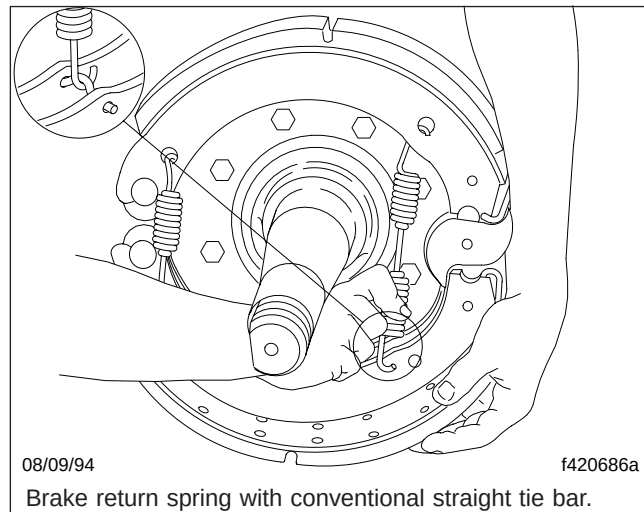
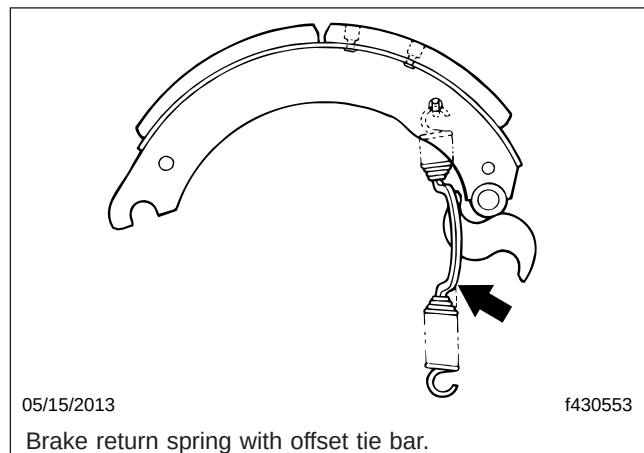

Fig. 3, Return Spring Removal/Installation, Straight Tie Bar
Fig. 4, Return Spring Removal/Installation, Offset Tie Bar
- 8.3 Lift the lower shoe to release tension on the brake return spring. Remove the spring. See Fig. 3 and Fig. 4.